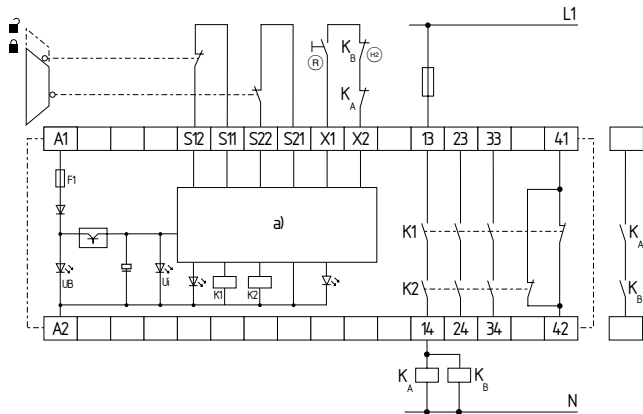

Fig. 2
Dual-channel control, shown for a guard door monitor with two position switches where one has a positive break contact; with external reset button (R) (Fig. 2)
- (HC) = Feedback circuit